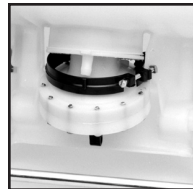

Figure 2.
2. With unit laying on its back with pump assembly facing you, remove the pump rod (C). Loosen hose clamp and remove pressure hose (D). Caution: There may be liquid inside the hose and pressure cylinder even when the tank is empty. Wear protective gloves. Next, loosen the clamp at the base of the sprayer (E). Figure 2.